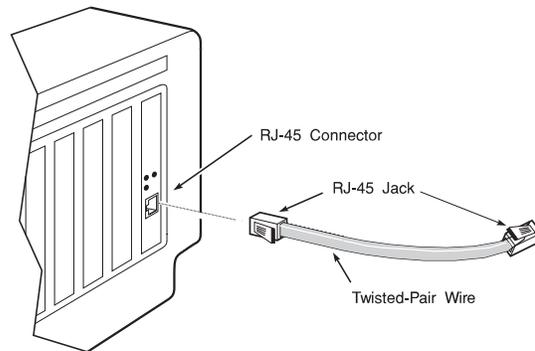

Figure 4-2. Connecting either Ethernet BNC/RJ-45 or Ethernet AUI/RJ-45
1. Insert the male RJ-45 jack at one end of the unshielded twisted-pair wire segment into the female RJ-45 connector (see Figure 4-2 on page 4-3).